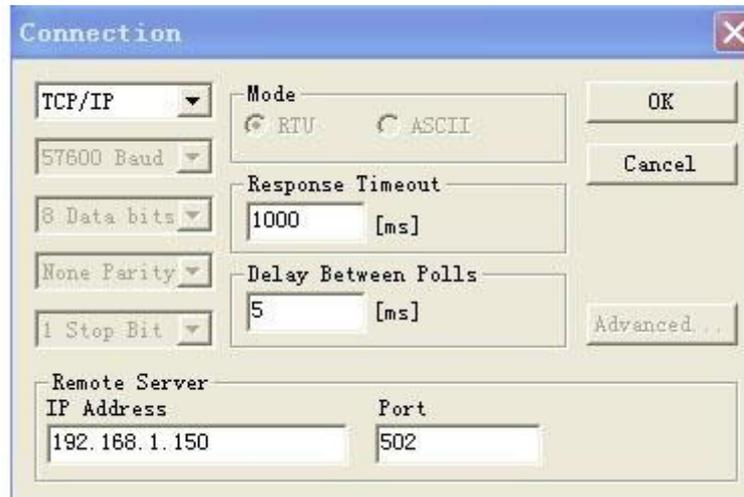

Figure 18
6. After all that config, then see following as Figure 18:
- Following we show the Modbus TCP method. Config connection as Figure 18. Press OK to start TCP connection with E7000.